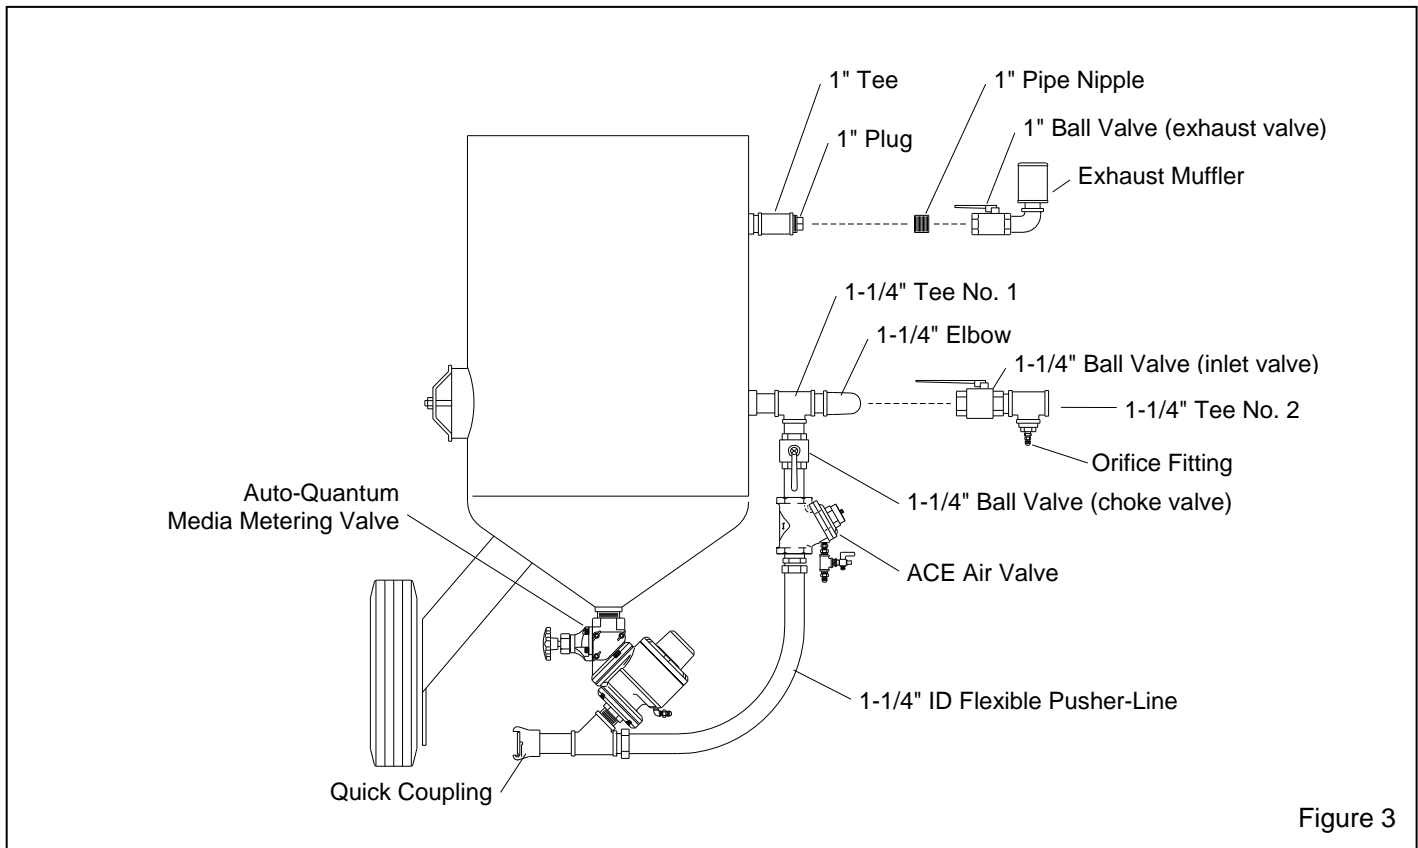

Figure 3
2.2.7 Install a 1-1/4" pipe tee (Tee No.1) at the blast machine inlet as shown in Figure 3.
2.2.8 Assemble a pusher-line between the tee fitting and the Quantum valve using standard pipe fittings or flexible pusher-line as shown in Figure 3. Start at the tee and work downstream; this line must include a manual choke valve and the ACE air valve, in that order.